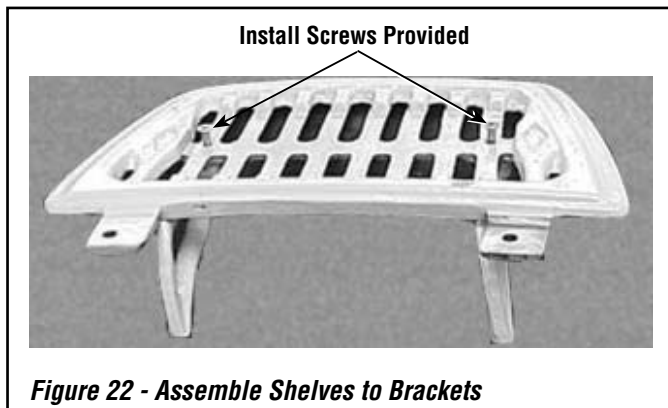

Figure 22 - Assemble Shelves to Brackets
2. Install decorative brackets to both warming shelves using the screws provided (see *Figure 22*).